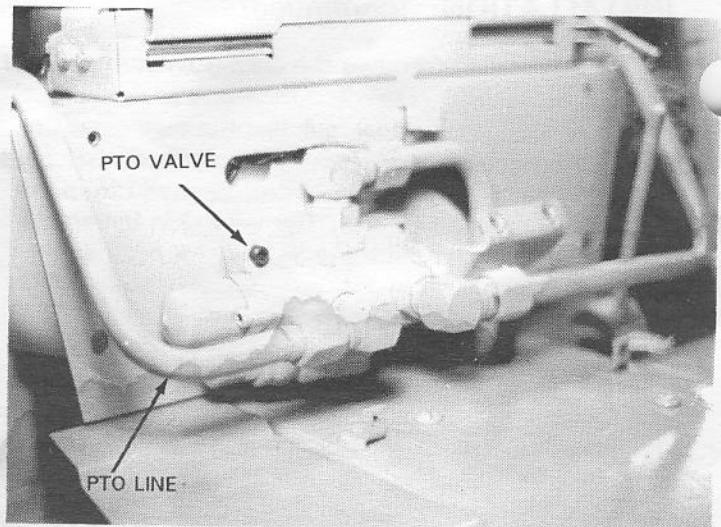

FIG. 8
2. Install the PTO valve (2) shown in FIG. 8.
4. Install 2 each 1/4-20 X 1 1/4 cap screws (7) and mount the valve to the seat support as shown in FIG. 8. Tighten both cap screws.
7. Install the right hand work port line (13) to the right hand PTO work port shown in FIG. 8. (NOTE: All the steps are the same as in 6, 6a, and 6b except the quick coupler will be a male (14) on the right hand work port.)